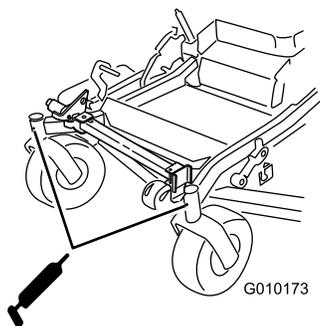

Figure 49
11. Install the hex plug and dust cap (Figure 49).